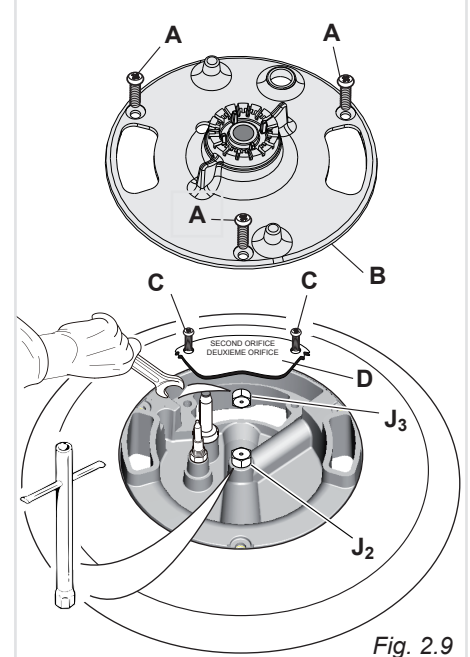

Fig. 2.9
(*) inner crown ("J₂" in figure 2.9)
(**) outer crown ("J₃" in figure 2.9)
- Dual burner only (fig. 2.9): Unscrew the no.3 fixing screws "A" and remove the inner crown flame spreader "B"; then unscrew the no.2 fixing screws "C" and remove the cover plate "D".
- Dual burner only (fig. 2.9): Refit the cover plate "D" and screw the no.2 fixing screws "C"; then refit the inner crown flame spreader "B" and screw the no.3 fixing screws "A".